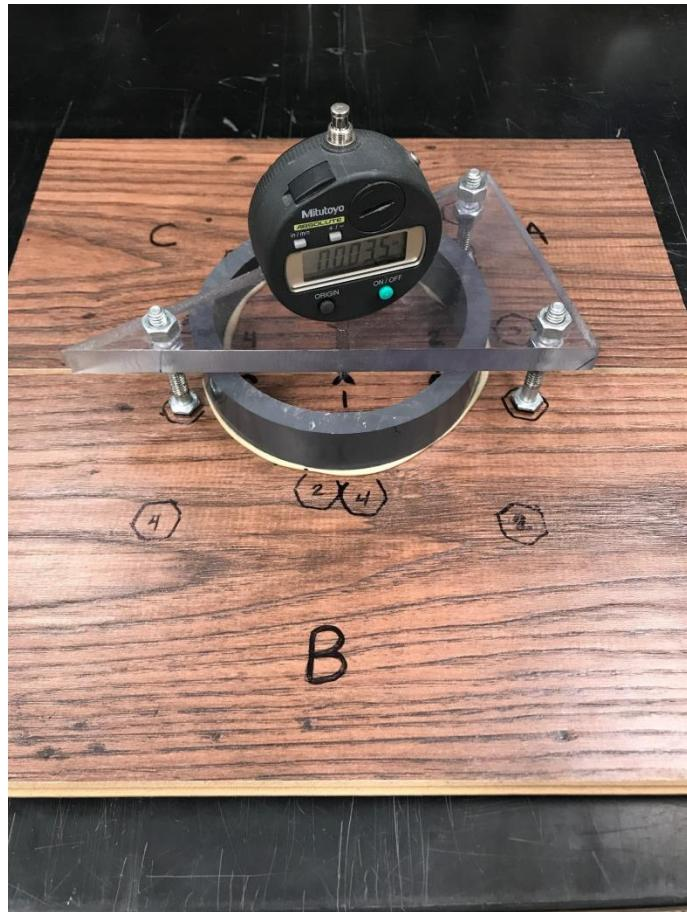

Figure 7 – Example of marked foot locations of measurement device
**Note: Make sure the measurement device feet do not sit on any joint. When taking each test location initial measurement, mark the foot locations of the measuring device so that it can be positioned back in the exact same location when taking the follow up measurements for wet swell and recovery height readings (optional). For any subsequent measurements make sure measurement device feet are in the exact marked locations. Make sure the measurement device feet fall outside of the plastic ring location and sit flat and level on the surface, when measuring joint height of test locations – See Figure 7.**